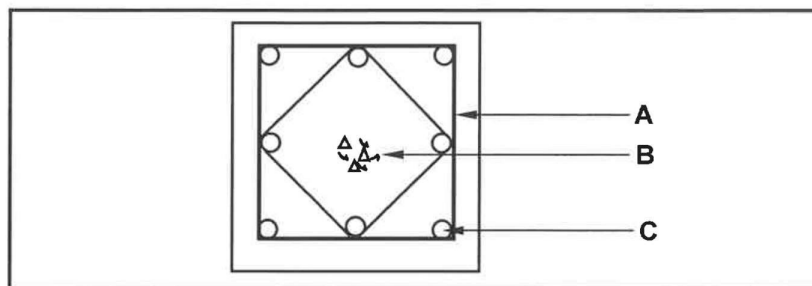

FIGURE 6.4
- 6.4 FIGURE 6.4 below shows a sectional view of a reinforced concrete column. (1)